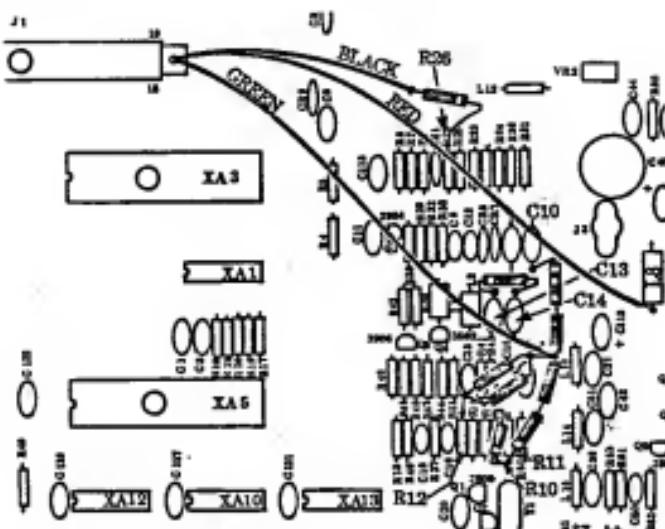

Figure 3. Retrofit Diagram.
5. Using Figure 3 as a reference perform the following: